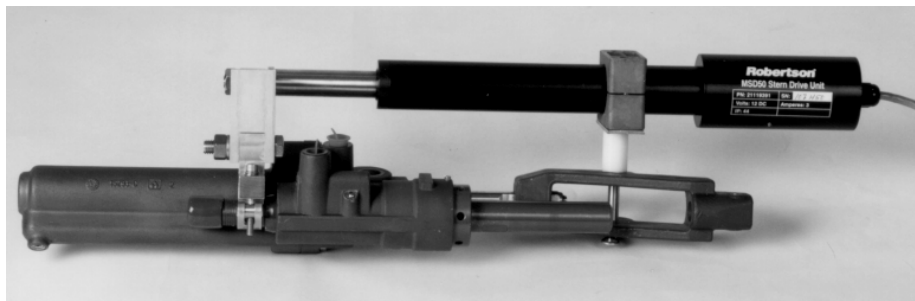

**Figure 12**
The 93-96 model Mercruiser stern drive is identified by the  casting mark (see Figure 12.)
*MSD50 mounted to a 93-96 model Mercruiser stern drive with the Mercruiser kit no. 3 (see Figure 12 for details)*
2. Remove the existing bolt from the position marked 1 (see Figure 12).